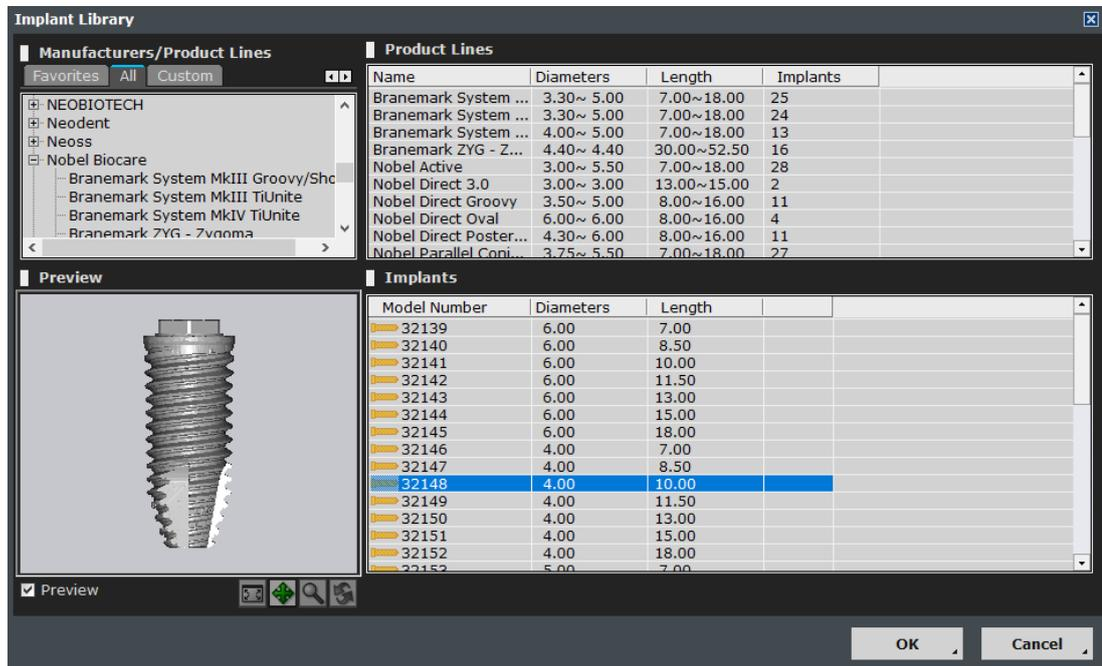

Fig. 80 [Implant Library] window
**Pick and Place.**The [Implant Library] window, as shown in Fig.80, provides the user with a Manufacturers list, a Product Lines list, a Preview window and a section where the individual implant models are to be selected from.